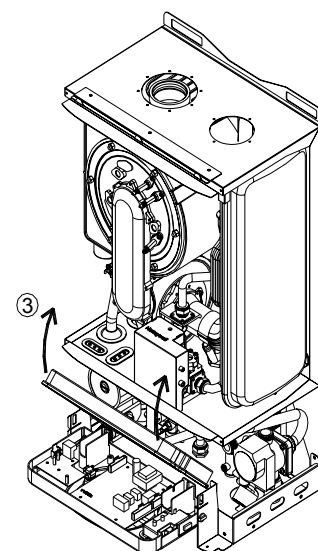

Fig. 6
- Unscrew the four fixing screws (fig. 6) and remove the cover.